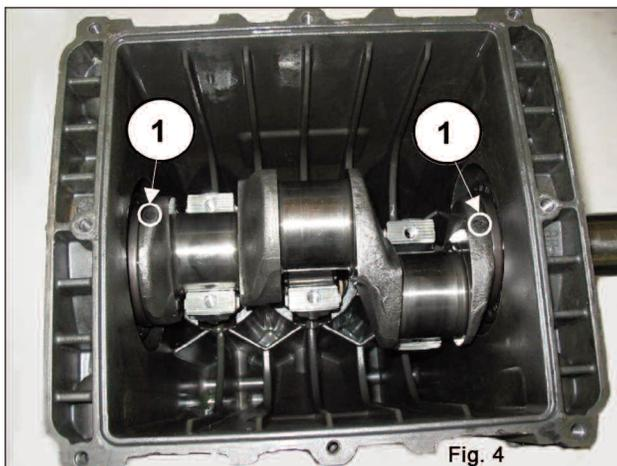
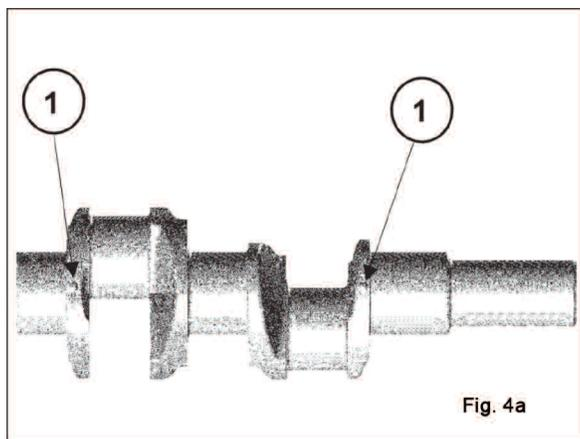

Fig. 4
Fig. 4a
- push the plunger guides forward with their con-rods to facilitate side extraction of the pump shaft. There are two reference points visible on the shaft (indicated with 1 in fig. 4 and in fig. 4a). These must be turned toward the operator to facilitate extraction.